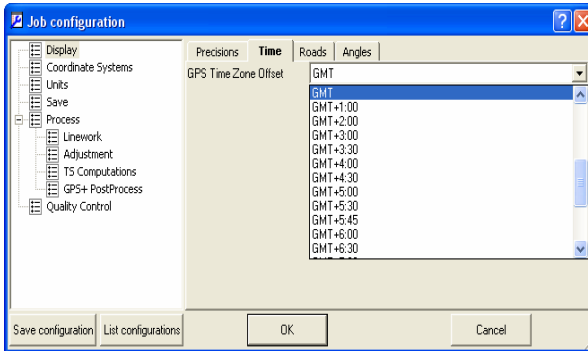

Figure 2-12. Job Configuration – Time Tab
- The *Time* tab (Figure 2-12) sets the GPS time zone offset.
- The *Angles* tab (Figure 2-12) sets the format angular values.